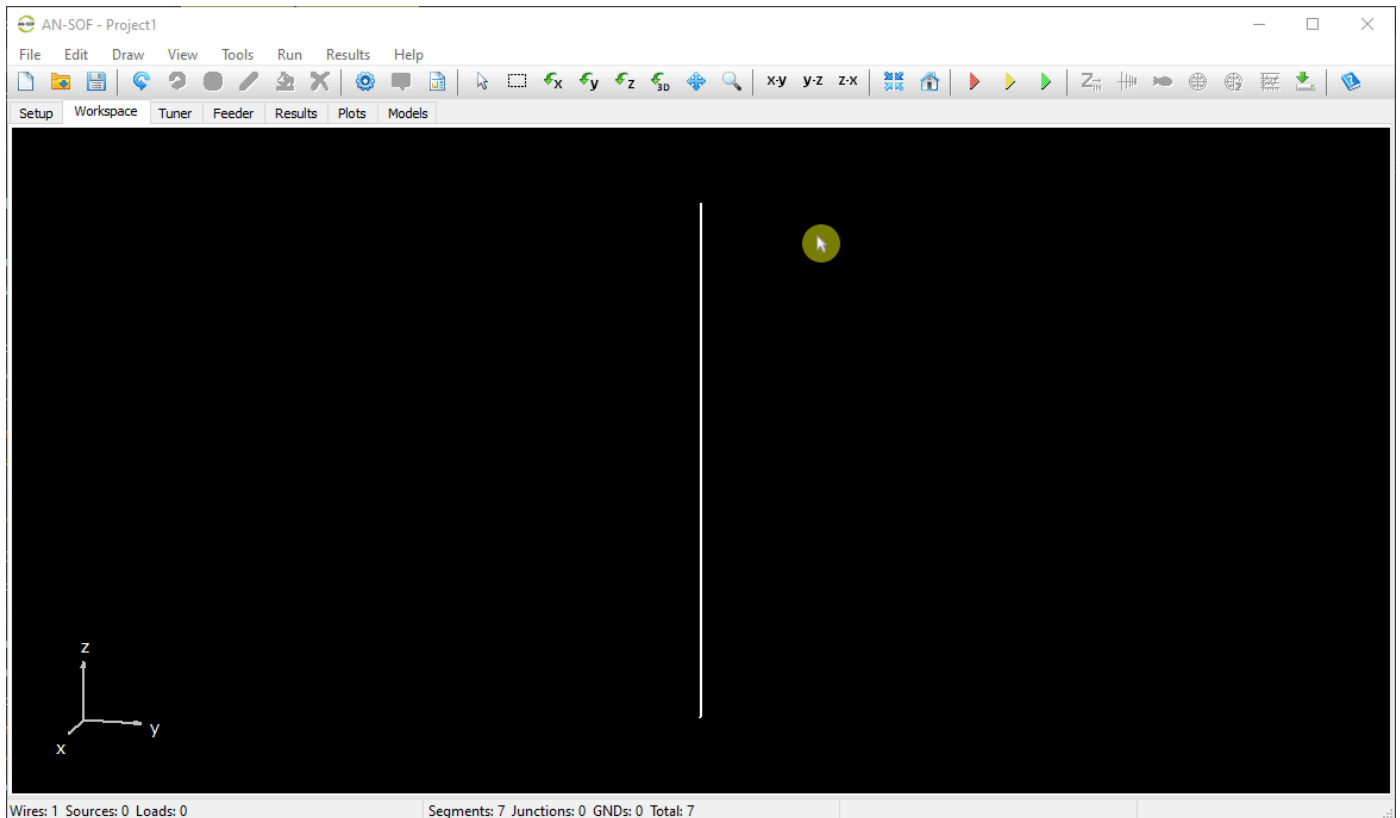

Fig. 1: Demonstration of how to add a source to a wire segment.
- Select **Source / Load / TL (Ctrl + Ins)** to open the Source / Load / TL toolbar at the bottom of the screen (**Fig. 1**).